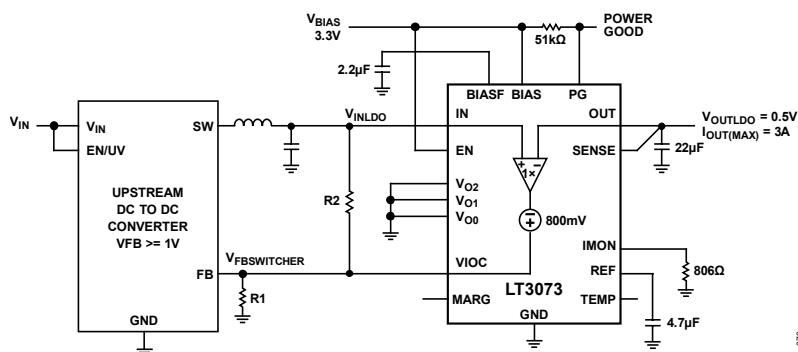

Figure 70. VIOC Basic Operation
The VIOC pin controls an upstream switching converter to maintain a constant voltage across the LT3073, regardless of the LDO’s output voltage. This maximizes efficiency while maintaining PSRR performance. The VIOC pin is the output of a fast amplifier and equals to $(V_{IN} - V_{OUT}) + 800\text{mV}$. As shown in Figure 70, the VIOC feature is simple to use. In the case of $V_{FB} \geq 1\text{V}$, connect the VIOC pin to the upstream switching converter’s feedback (FB) pin. This will regulate the LT3073’s input-to-output differential to the switching converter’s feedback voltage minus 800mV. When paralleling multiple LT3073s, connect the VIOC pin of one of the LT3073 to the upstream switching converter’s feedback pin and float the remaining VIOC pin(s). When LT3073 is turned off, V_{INLDO} is clamped to a voltage set by $V_{FB\text{SWITCHER}} \times (R1 + R2)/R1$.